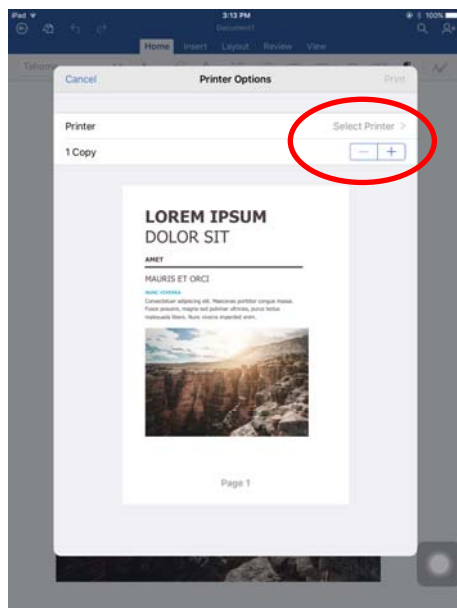

Figure 41
2.5 When the “Printer Options” interface pops up, click “Select Printer”, as shown in Figure 41.